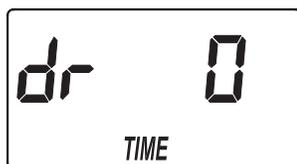

FIG. 24
1. If you completed the previous step, the solution draw / rinse time adjust screen should show in the display (See Figure 24). Otherwise, press and hold for 3 seconds the SELECT button, until the display shows "000 - -", then press the SELECT button twice to display the solution draw / rinse time adjust screen.